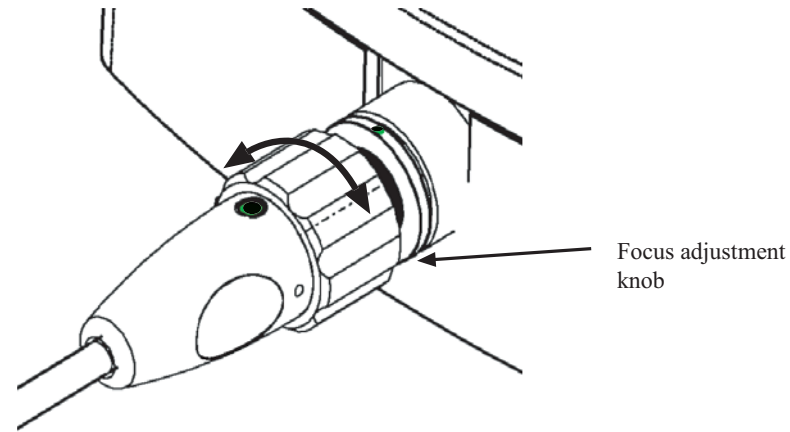

Figure 9. Refocusing the fiberscope
c. Once the fiberscope distal end is illuminated, refocus the image using the focus adjustment knob, as shown in Figure 9.